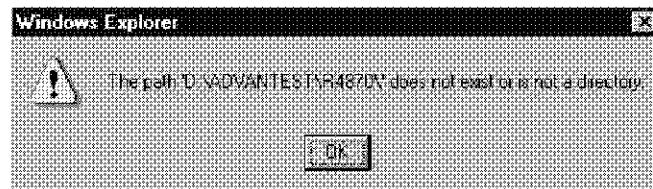

Figure 2-30 Explorer Error Message
1. *Do not delete or change the names of the D:Advantest directory and the directories in it. If the Advantest directory is accidentally deleted and then the drop down menu is clicked, the error message shown in Figure 2-30 is displayed. Explorer is not displayed.*